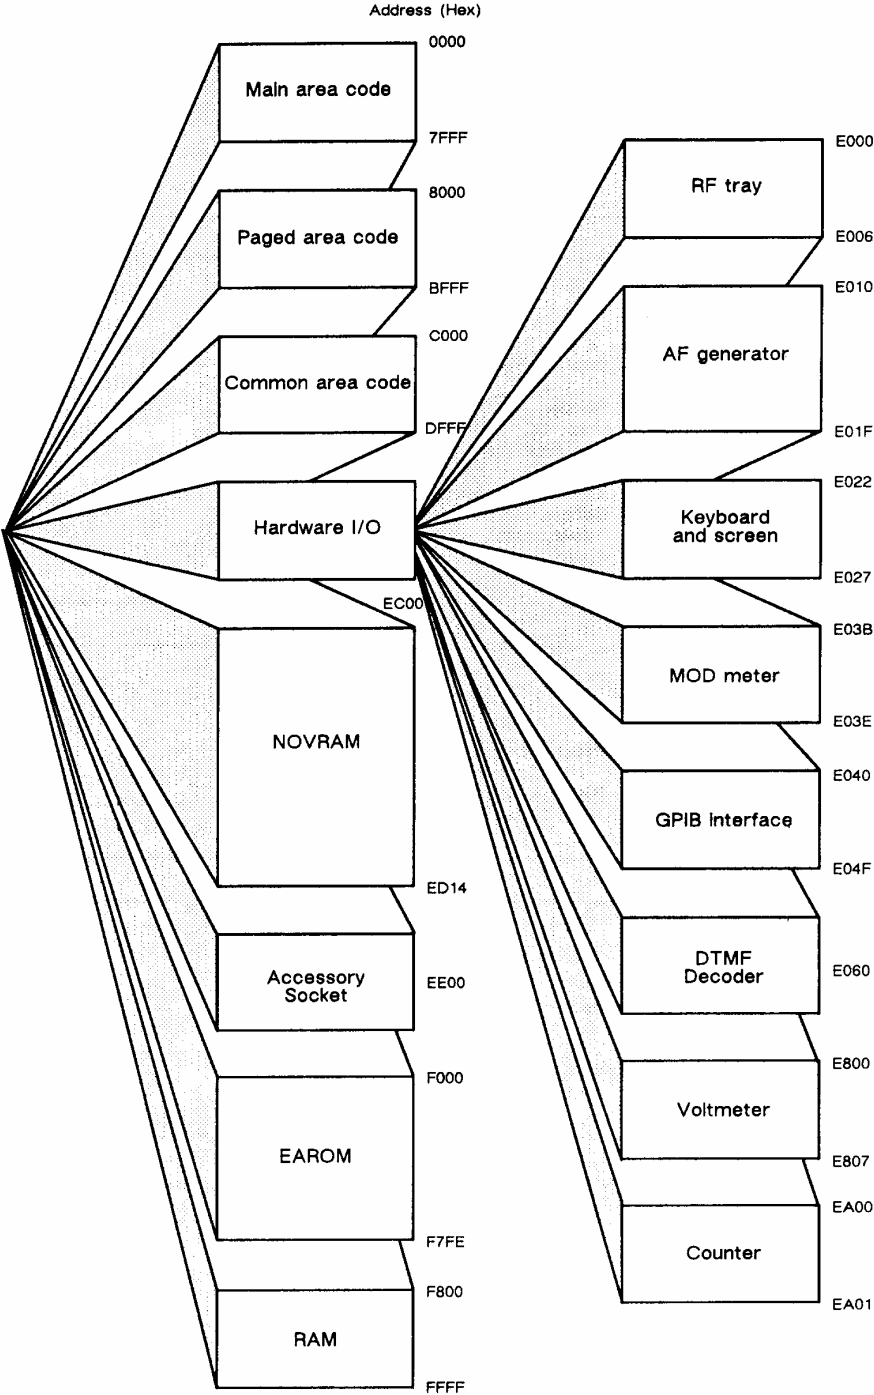

Fig. 5-3-5 2955A Memory map
- (1) For maintenance purposes, the memory map for the instrument is given in Fig. 5-3-5.
- (2) When replacing EPROMs, note that they are marked A and B and are inserted in the sockets for IC10 and IC9 respectively.